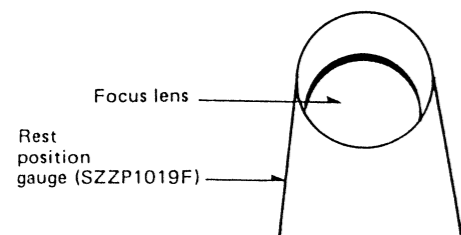

Fig: 4-2. "NG" (Too close)
5. Assure that the lens is concentric within the hole of the REST POSITION GAUGE (SZZP1019F) as shown in figure 4-2.